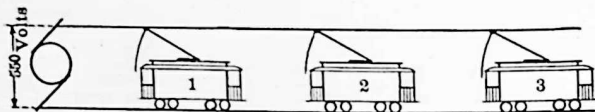

FIG. 66.
**Prob. 8.** In Fig. 66:
**Prob. 17.** Assume the voltage across the generator in Fig. 66 to be 550 volts.